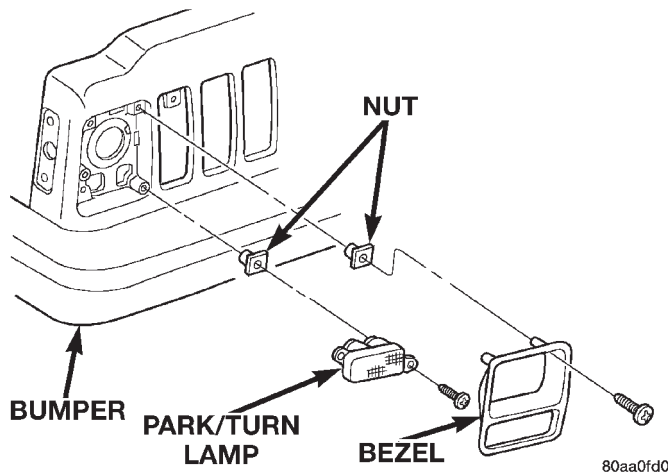

Fig. 4 Park/Turn Signal Lamp
- (1) Remove the headlamp bezel.
- (2) Remove the screws attaching the park/turn signal lamp housing to the grille opening panel (Fig. 4).
- (3) Remove the bulb sockets and separate from the vehicle.